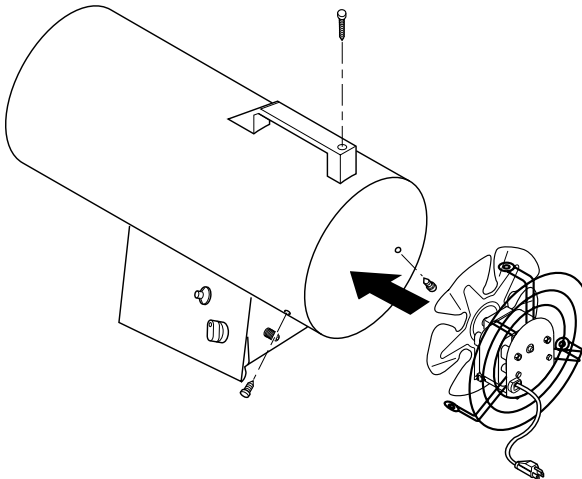

Figure 13 - Replacing Motor and Fan Guard into Heater
11. Place motor and fan guard into rear of heater shell. Make sure power cord is properly located (see Figure 13).